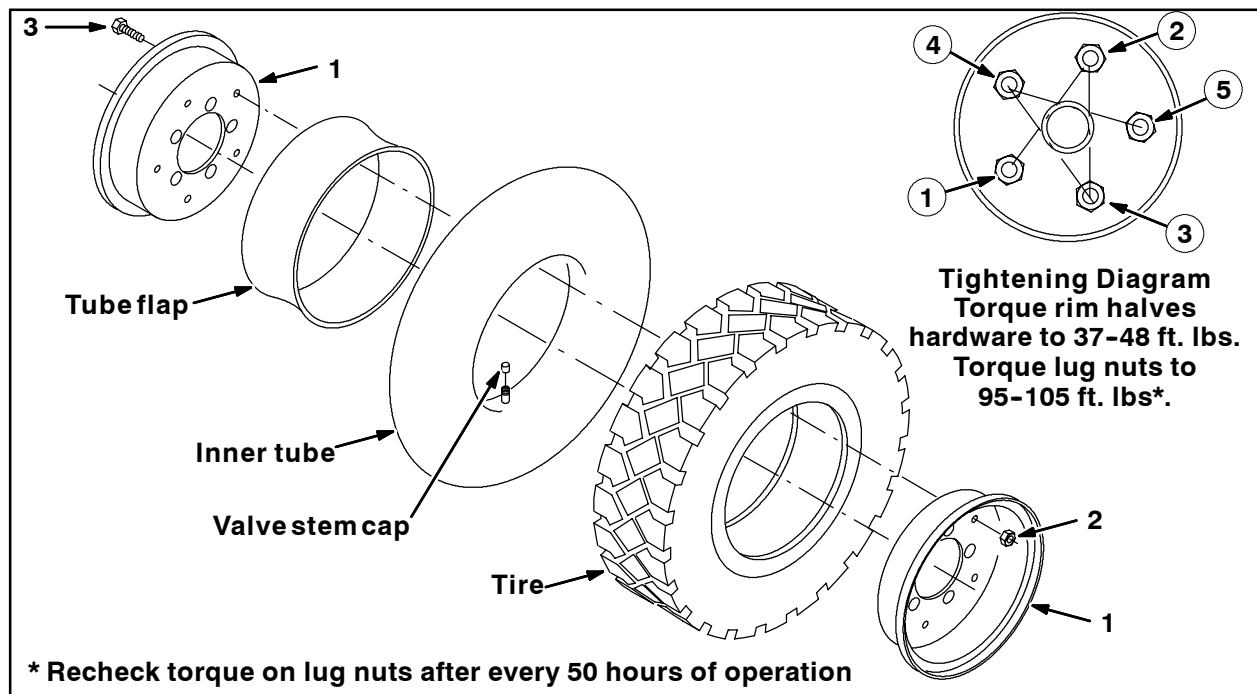

FIG. 1
3. Position the tube flap, inner tube, and tire between the inner wheel shell and outer wheel shell of the wheel rim assembly (1) and use the five hex lock nuts (2) and the hex screws (3) to secure the inner wheel shell to the outer wheel shell. Torque to 37-48 ft. lbs. Tighten hardware twice as shown in the Tightening Diagram. Refer to Fig. 1.
5. Use the lug nuts to reinstall the rear tire onto the machine. Tighten lug nuts as shown in the Tightening Diagram in Fig. 1. Torque lug nuts to 95-105 ft. lbs. Recheck torque on lug nuts after every 50 hours of operation.